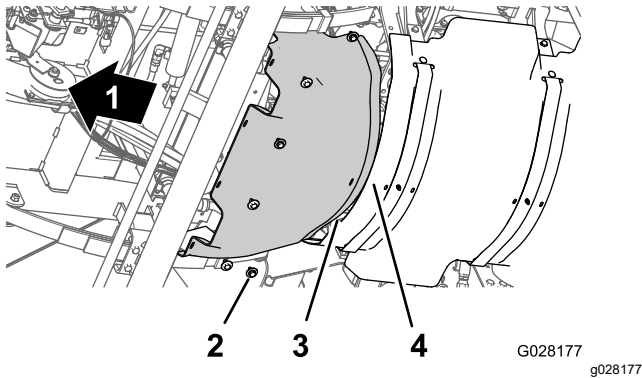

Figure 54
1. Align the rear flange of the forward heat shield over the forward flange of the rear heat shield (Figure 54).
2. Align the holes in the forward heat shield with the threaded holes in the chassis (Figure 54).
3. Assemble the forward heat shield to the machine with the 6 hex-head bolts and 6 washers (Figure 54) that you removed in step 3 of Removing the Forward Heat Shield (page 47).